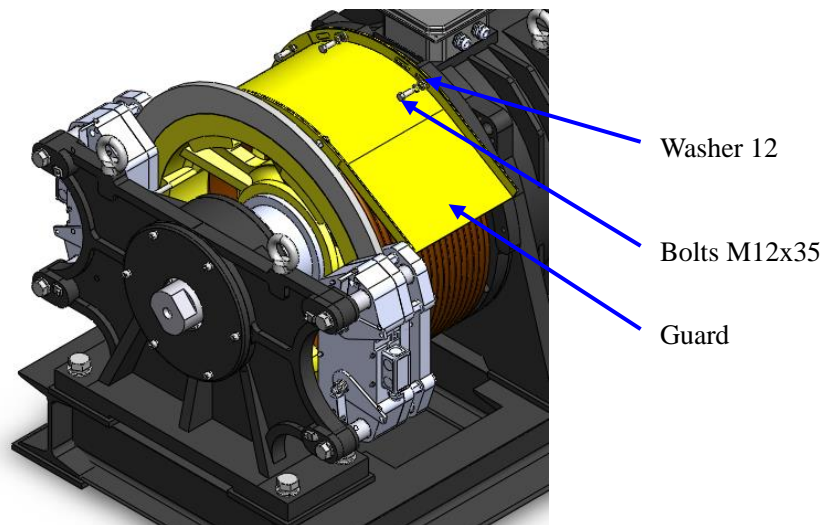

Figure 73: Remove M12x35 bolts
2. Loosen the bolts M12x35 (4 pieces) and bolt M16x40 (2 pieces) with open end wrench, and take off the guard. See Figures 73 and 74.